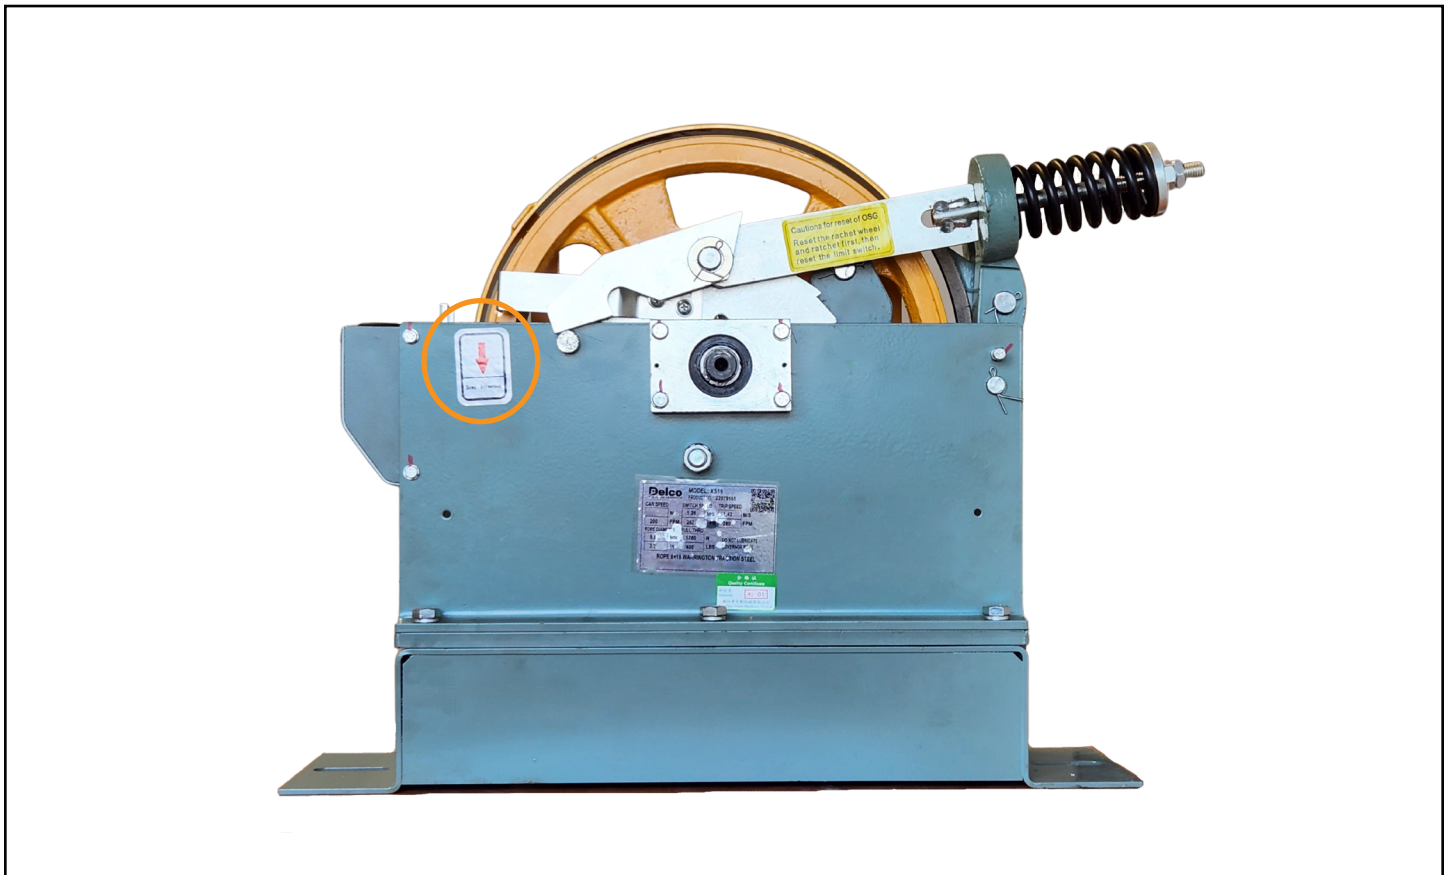

Figure 4
4. Check the governor hand to ensure the correct type for the application (see figure 4). When determining the hand of the governor the side with the red arrow label should be facing towards the center of car. The red arrow on the unit indicates side for the cable drop to the car safeties and the rope traveling direction when the car is moving in the “DOWN” direction. Due to almost symmetrical construction of the governor along the longitudinal axis, the governor can be used for the other hand too. In this case the governor side with the label will be facing towards the elevator shaft wall, the red arrow still must be aligned with cable drop to the car safety and to point the same direction as the governor rope moving direction when the car in moving in the “DOWN” direction. This option should be considered only when sufficient space is available around the governor for access.